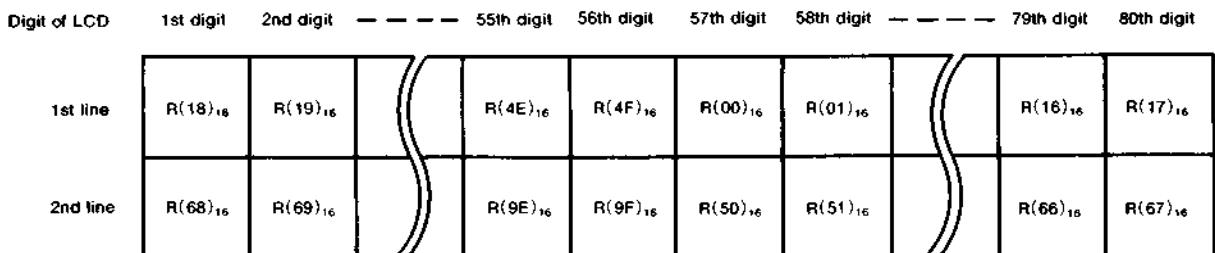

Fig.7 Example of display address
When the content of the display start address register is incremented, the result becomes (18)₁₆, and the LCD becomes as shown in Fig. 7